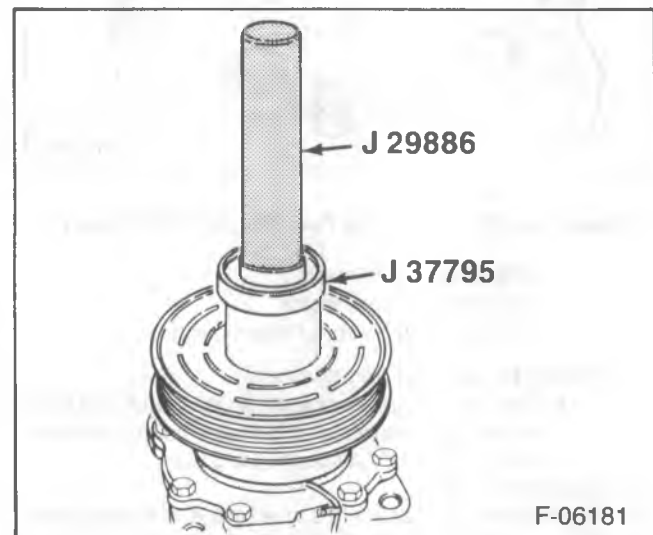

Figure 15—Installing the Rotor Pulley
3. Rotor pulley (5) to the front housing hub and align.
- Place J 29886 into the ring (figure 15).
5. Shaft key (27).